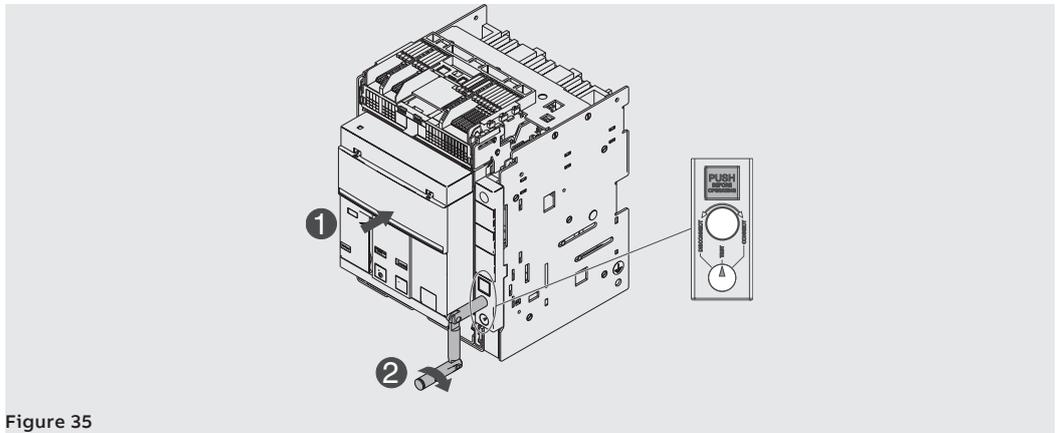

Figure 35
6. Keep breaker pushed. Turn the crank clockwise until the pushbutton comes out and the indicator shows that the circuit-breaker is in **TEST** position. See Figure 35.